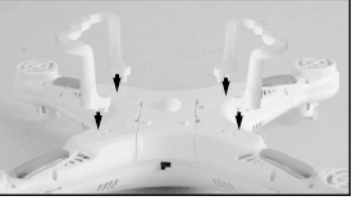

Figure.1
- 1.Use a screwdriver to remove the screw on the back of transmitter,than open the battery cover(Figure1).
- 1.Install the landing skids to the bottom of quadcopter (Figure 1).
1. Push the camera into a hold on the battery cover (Figure 1).